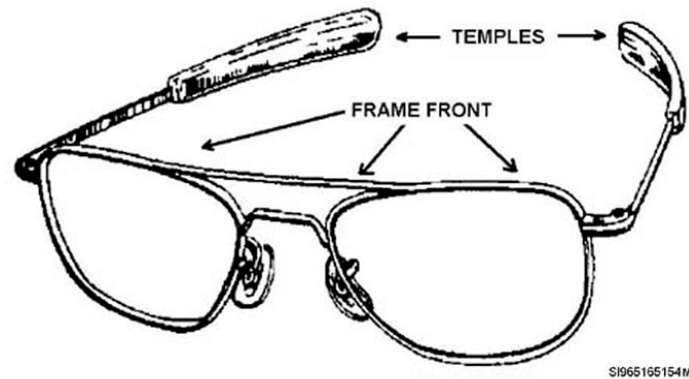
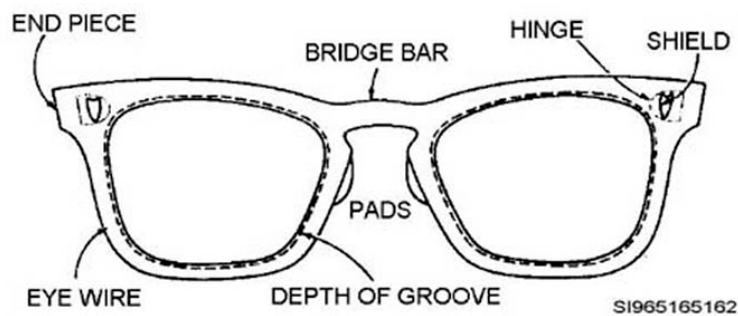

Figure 2-47. Basic frame parts—frame front and temples.
Figure 2-48. Components and landmarks of a typical frame front.
A spectacle frame consists of three basic parts: frame front and two temples (fig. 2-47). The frame front consists of the eyewire, bridge bar, nose pads (fixed or adjustable), end-piece, lens groove, hinge, and, in some frames, a (hinge) shield (fig. 2-48). The size of a frame front is determined by the horizontal width of the eyewire and the distance between the lenses (DBL). The DBL often is referred to as the *bridge size*. These measurements are given in millimeters. As an example, a “48-22” 5A frame has a 48 mm eye size and a 22 mm bridge size.
Nose pads are available in two basic styles: (1) molded-into-the-bridge fixed style (similar to those in fig. 2-47) and (2) those mounted-on-guard arms, an adjustable style (fig. 2-50). Fixed nose pads do not allow for any adjustment of the bridge fit and are best suited to patients with relatively straight noses and slightly elevated facial bridges. They are not the best choice for a person who's had a broken nose that healed crooked or for patients with relatively flat facial bridges. In these cases, adjustable nose pads would allow more flexibility to get the glasses to sit comfortably on the face.